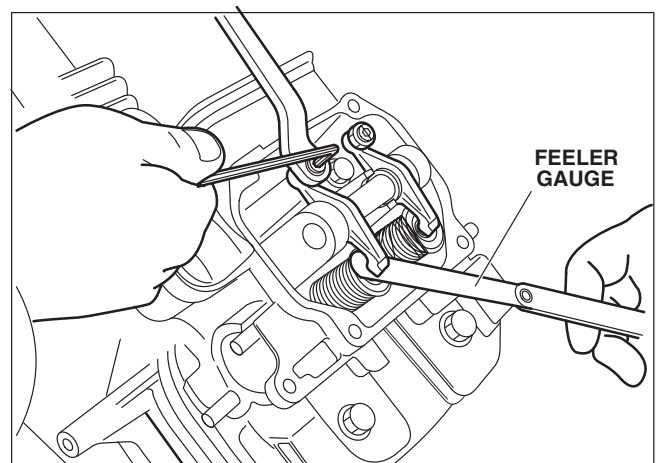

FIGURE 6-10.
2. Loosen locknut on rocker arm and turn adjusting screw to adjust the clearance between rocker arm and valve stem end. (Figure 6-10.)